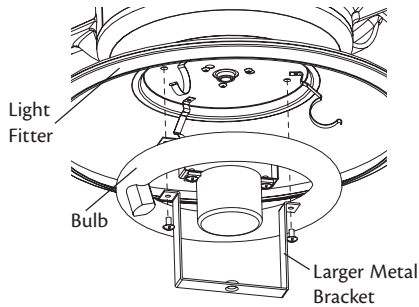

Figure 22 - Attaching the brackets to the light fitter
- Align the screw holes in the larger metal bracket with the screw holes in the smaller metal bracket and the light fitter as shown in Figure 22.